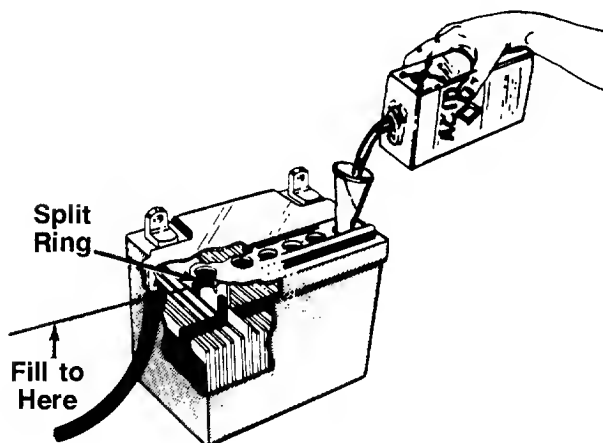

FIGURE 2.
6. Fill each battery cell slowly and carefully to the split ring at the bottom of the well. See figure 2. Use caution as the acid level will rise rapidly after the bottom of the cell is filled. **DO NOT OVERFILL.**